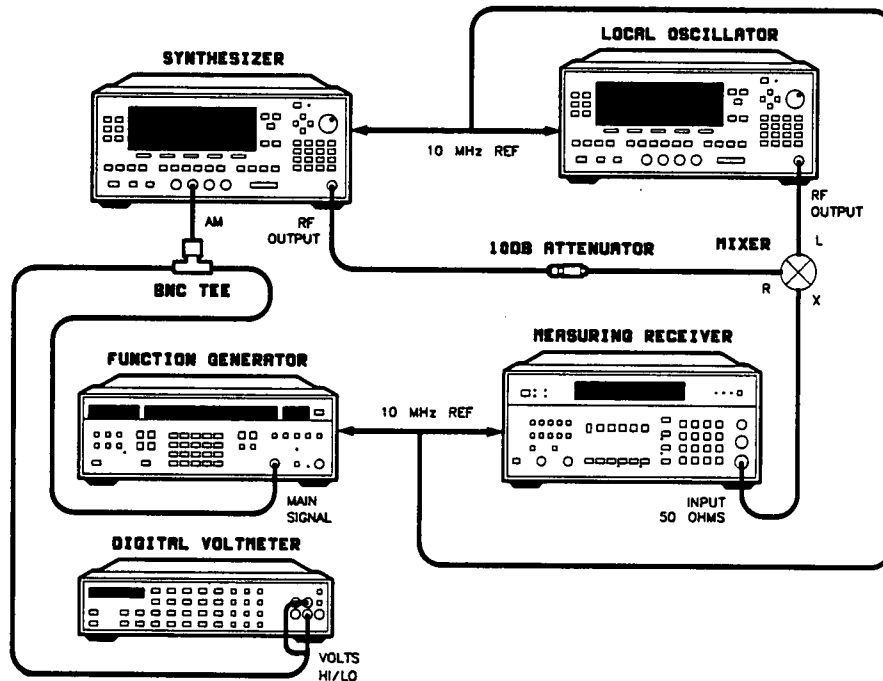

Figure 2-21. AM Accuracy Test Setup <20 GHz
1. Turn on the equipment shown in figures 2-21 and 2-22. Preset the instruments and let them warm up for at least one hour.
3. Connect the equipment as shown in figure 2-21.